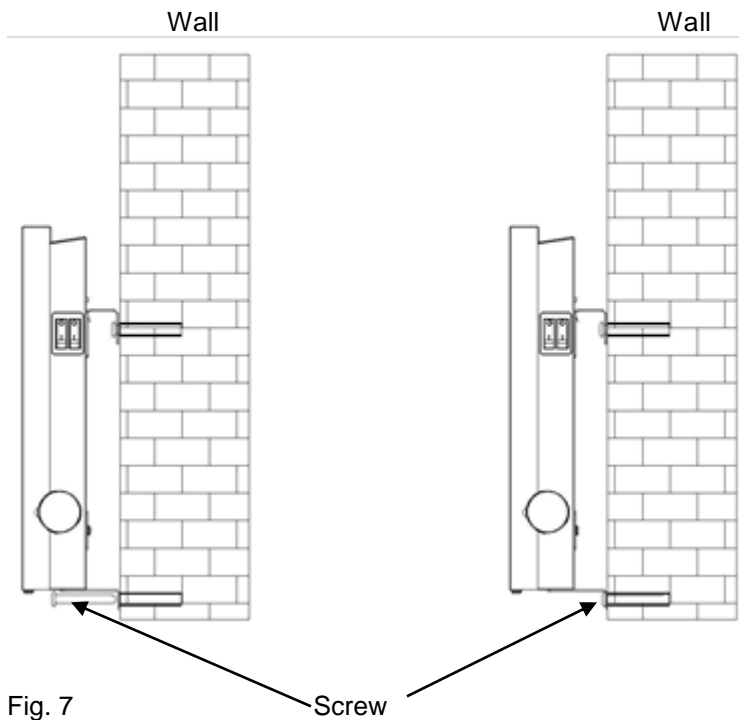

Fig. 7
- 7) Hang up the heater on the wall with its two slots getting into the hooks. Then tighten two spacers at bottom of the heater to wall with two screws. Fig.7